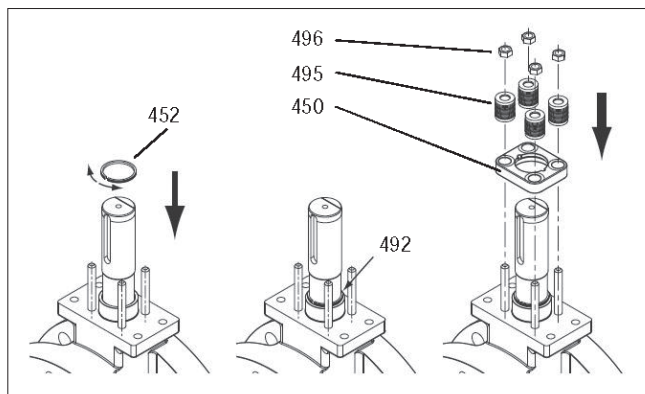

Fig. 27 Gland packing system BWXF, ~N, ~P
- Unfasten the nuts (496) and remove the disc spring kits (495), the gland (450), the retainer ring (452) and the compression ring (492). See Figure 27.